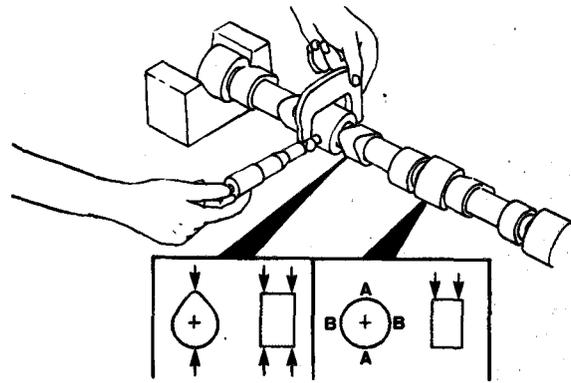

Figure 6-7
4. Measure camshaft bearing journals and valve lobes at locations as shown (Figure 6-7).